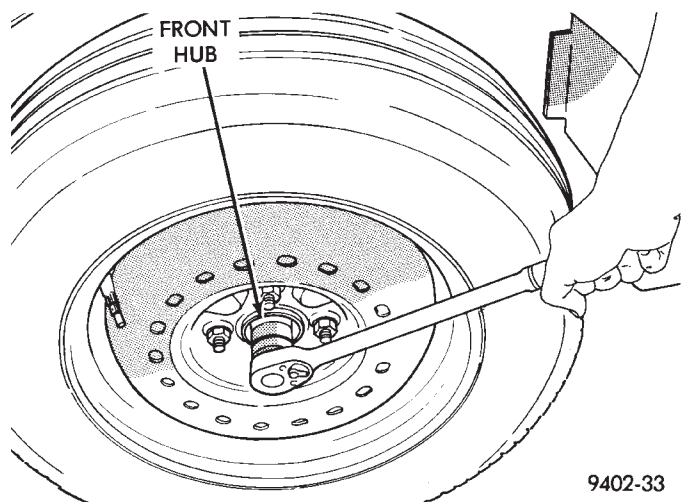

Fig. 2 Loosening Front Hub Retaining Nut
- (2) Loosen (but do not remove) stub axle to hub/bearing retaining nut. Loosen hub nut while vehicle is on the floor with the brakes applied (Fig. 2). The front hub and driveshaft are splined together and retained by the hub nut.
- (3) Raise vehicle on jack stands or centered on a frame contact type hoist. See Hoisting, in the Lubrication and Maintenance section, for required lifting procedure to be used for this vehicle.